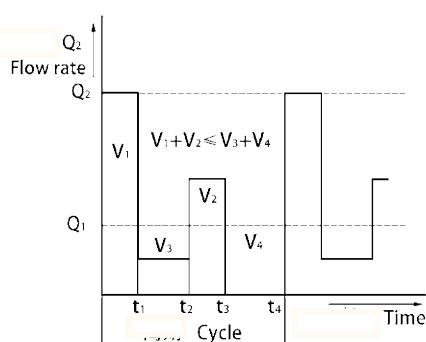

Fig.2
1. In the case of hydraulic circuits where a large flow rate is required for a short period, alternating with a low or no flow condition, the use of an accumulator allows smaller pumps and motors to be used, thus reducing both installation and operating costs. The operation cycle shown in fig. 2 would require a pump having a capacity Q_2 . If an accumulator is used, it is possible to store oil during the time periods $(t_2 - t_1)$ and $(t_4 - t_3)$ when requirement is very low or zero, and to re-utilize. During t_1 and $(t_3 - t_2)$, when the required flow rate is higher than the pump capacity Q_1 . This pump must be selected to have the volumes $V_1 + V_2 \leq V_3 + V_4$.